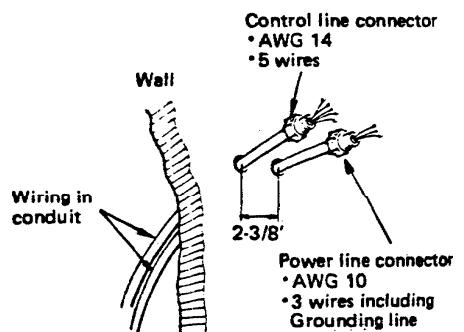

Fig. 13
a) Insert the interunit wiring (according to local codes) into through-the-wall PVC pipe. Run the wiring toward indoor side allowing approx. 7 in. from the wall face. Fig. 13